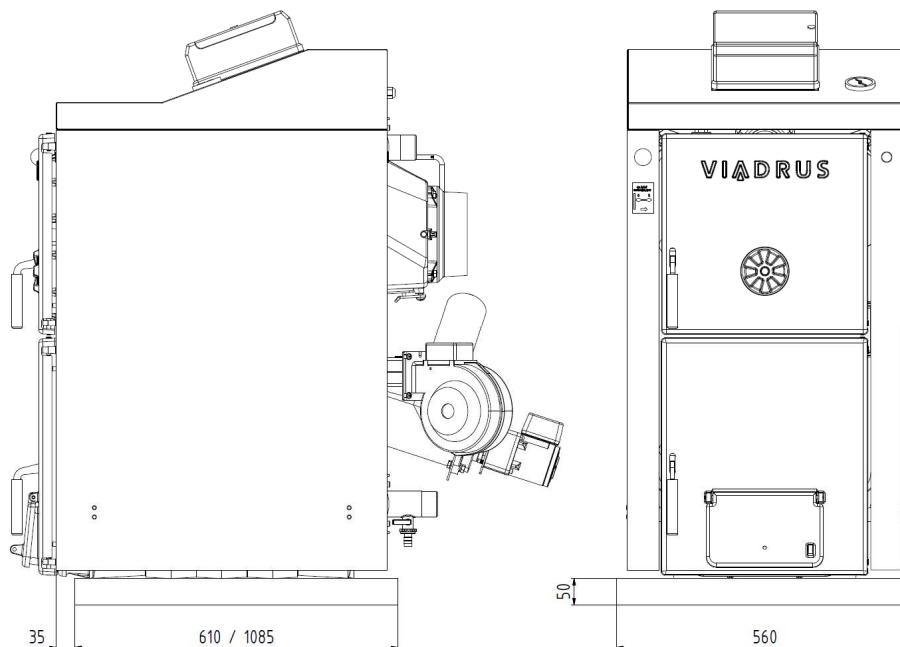

Fig. no. 6 Dimensions of a bedding under the boiler drum
1. Set up the boiler drum on the bedding (see Fig. no 6).